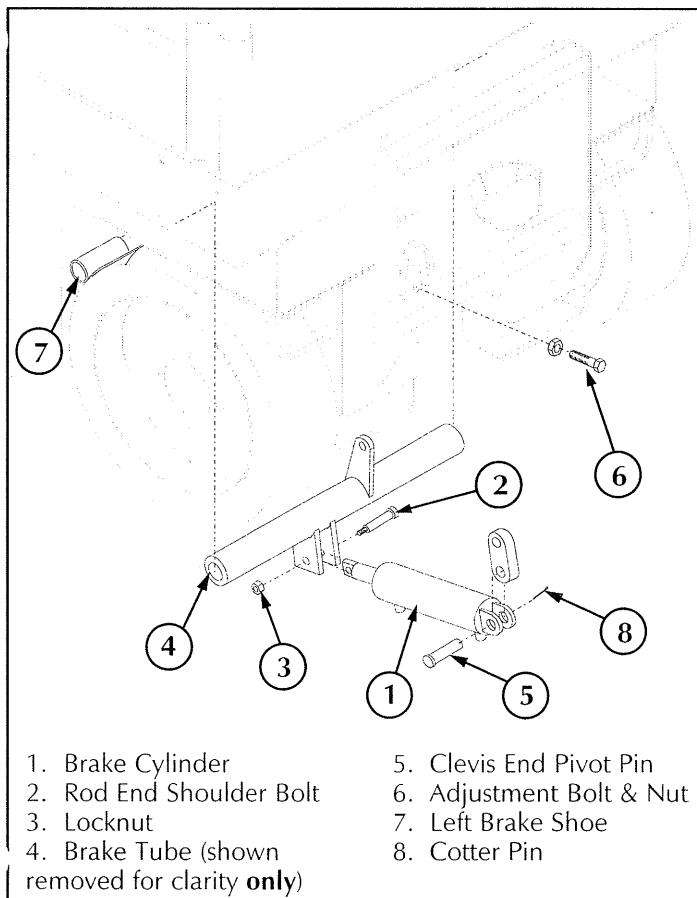

Figure 4-13: Brake Cylinder Installation
4.10 Brake Cylinder (Figure 4-13)